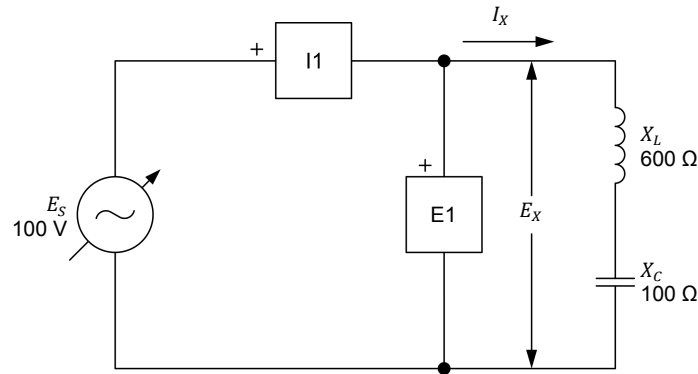

Figure 2-16. Series ac circuit containing an inductor and a capacitor.
7. Set up the circuit shown in Figure 2-16.
In this section, you will calculate the equivalent reactance X_{Eq} of the reactive components in the circuit of Figure 2-16. You will measure the voltage E_X and current I_X and calculate the equivalent reactance X_{Eq} from these values. Using the Oscilloscope, you will determine the phase relationship between the voltage E_X and current I_X and whether the equivalent reactance is inductive or capacitive. You will then interchange the inductive and capacitive reactance values in the circuit and repeat the previous manipulations. You will determine the relationship between the polarity of the equivalent reactance X_{Eq} of the reactive components and the nature of the equivalent reactance (inductive or capacitive).